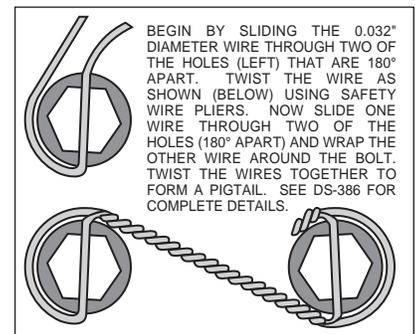
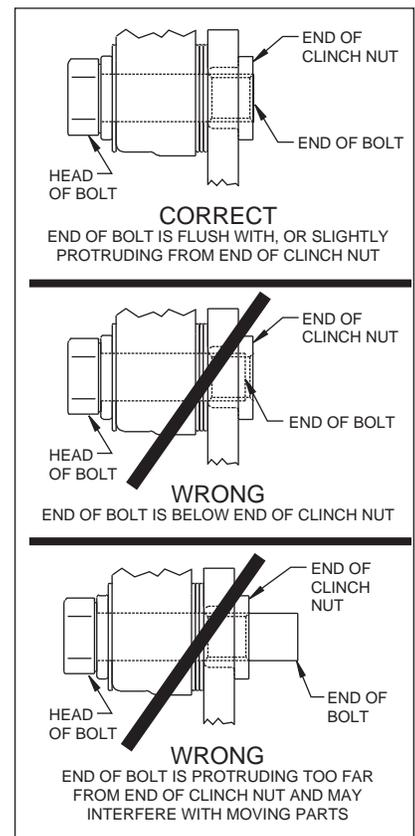

Figure 3. Safety Wire Diagram
Figure 4. Clinch Nut Engagement Diagram
- With the mounting ears pointing towards the rear of the vehicle, install the caliper mounting bracket (1) to the housing flange using the bolts and nuts supplied with the C-clip eliminator kit. Apply red *Loctite*® 271 to the bolt threads and torque to OEM specifications. **NOTE:** *The caliper mounting brackets (1) should be located between the axle housing flange and the inner C-clip hub. Make sure the heads of the caliper mounting bracket insert nuts are FACING OUTWARD TOWARDS THE WHEEL.*
- Install the cable stop bracket (2) on the top front hole on the in-board side of the housing flange with the tab pointing toward the rear of the vehicle, held in place with the final bolt retaining the caliper mounting bracket (1). Apply red *Loctite*® 271 to the stock OEM bolt threads and torque to OEM specifications.
- Bolt the hat (3) to the rotor (4) using washers (5) and bolts (6). Torque bolts (6) to 180 **in-lb**. Safety wire rotor bolts (6) using standard 0.032 inch diameter stainless steel safety wire as shown in Figure 3. Please refer to Wilwood's data sheet DS-386 (available at www.wilwood.com/pdf/ds386.pdf) for complete safety wire installation instructions.
- Align the correct hole pattern in the hat (3) with the stud pattern on the axle flange. **NOTE:** *Some OEM and after market axles come with stud sizes larger than 0.50" diameter. Verify stud size and have a qualified machine shop drill the hats to the correct size. Slide the hat/rotor assembly (3 and 4) over the wheel studs and against the axle flange face.*
- WITH THE BLEED SCREWS POINTING UP, mount the caliper (7) over the rotor (4) and onto the caliper mounting bracket (1) using washers (8) and mounting bolts (9). View the rotor through the top opening of the caliper. The rotor should be aligned in the center of the caliper. If not, adjust the caliper by using 0.032 inch shims (10) by placing them between the caliper mounting bracket (1) and the caliper (7). Add as many shim washers (10) as necessary to achieve the correct alignment. **NOTE:** *The end of the bolt must be flush with or slightly protruding from the head of the clinch nut. See Figure 4.* Place spare shims (10) between washer and caliper mounting ear to achieve the proper mounting fastener configuration. Always use the same amount of shims on both the top and bottom caliper mounting bolts (9). Apply red *Loctite*® 271 to the mounting bolt threads (9), torque to 30 ft-lb. Safety wire the caliper mounting bolts (9).
- Position the Wilwood disc brake pads (11) into the caliper (7) and fasten with cotter pin (12). Steel backing plate side of brake pad should face the caliper pistons.
- Disassemble the mechanical parking brake caliper (13) before mounting. Replace the bullet pin (rounded side against moving arm), steel pad backing plate and brake pad in the operating half of the mechanical caliper. Slide operating half of caliper onto the in-board side of the bracket with moving arm pointing toward the front of the vehicle. Mount outboard half of caliper on opposite side of rotor with the two spacers located between the caliper halves. Bolt mechanical caliper assembly together with 3/8-24 bolts provided with the mechanical caliper. The mechanical caliper should slide on the bracket ears at this point. Loosen the adjusting nut on the operating half of the mechanical caliper. Lift the arm up to its highest point and adjust the bolt until the arm can only move down between 1/4 inch to 3/8 of an inch until pressure is applied to the rotor, then tighten the adjusting nut. After the parking brake has been used a few times, it may need to be readjusted. **NOTE:** *Clevis and cable kits which attach to the mechanical arm are not included in the Wilwood parking brake kit. Because of the numerous variations it is impossible to supply a generic style that would be applicable to all applications. Gennie Shifter, and their distributors carry a complete line of cable kits and accessories that will fit this system. They can be reached at 626 • 337-2536. Specify a Clevis kit with a 1/4 inch pin.*